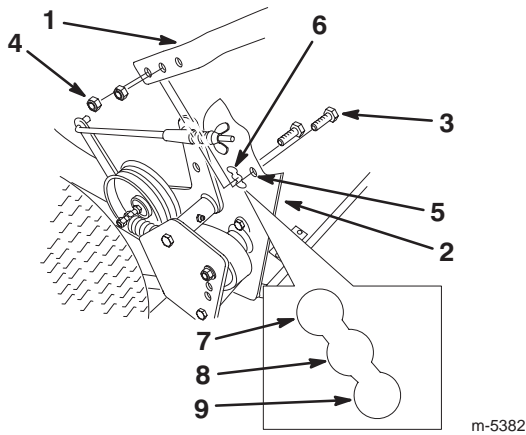

Figure 3
1. Align the upper handle mounting holes with the mounting holes in the rear frame (Fig. 3).
2. Secure each side of the handle to the rear frame (using the upper mounting hole) with a flange bolt (3/8 in. x 1 in.) and a flange nut (Fig. 3).
3. Select the low, middle, or high position for the lower mounting hole according to the operator's height (Fig. 3).
4. Secure each side of the handle to the rear frame (using the lower mounting hole) with a flange bolt (3/8 in. x 1 in.) and a flange nut (Fig. 3).